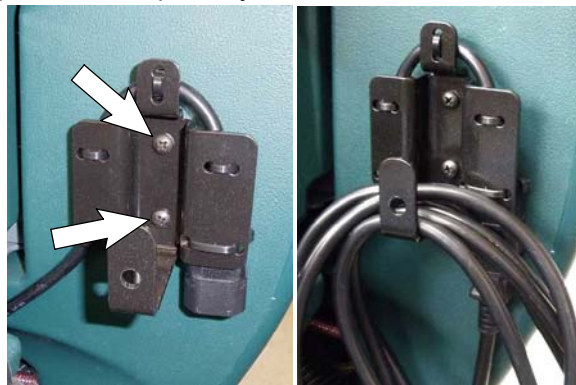

Fig. 15
16. Align retainer bracket holes with marks on console and attach bracket using (2) self-tapping screws (Figure 15). Connect the extension cord from the old off-board charger into the on-board charger's power cord and hang cord on hook. New extension cord not included with kit, must be purchased separately.